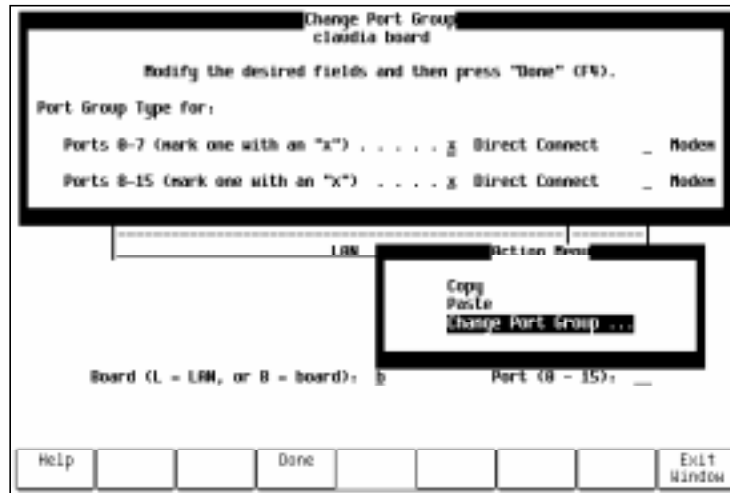

Figure 10. Change Port Group Screen
- 3 Press the **Action Menu (F5)** function key and then select **Change Port Group**. A pop-up window for choosing port group types appears. Use the **tab** or **arrow** key to go to the **Direct Connect** or **Modem** field for the two port groups. Place an **x** or **X** in the field that you want to choose. See figure 10.